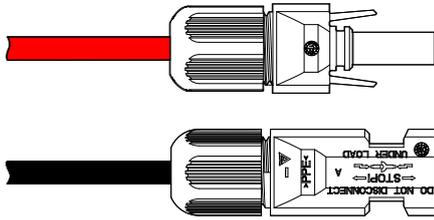

Figure3-21 Tighten the lock nut
- Step 4 Tighten the locking nuts of the positive and negative connectors to corresponding insulating shells, as shown in Figure3-21.